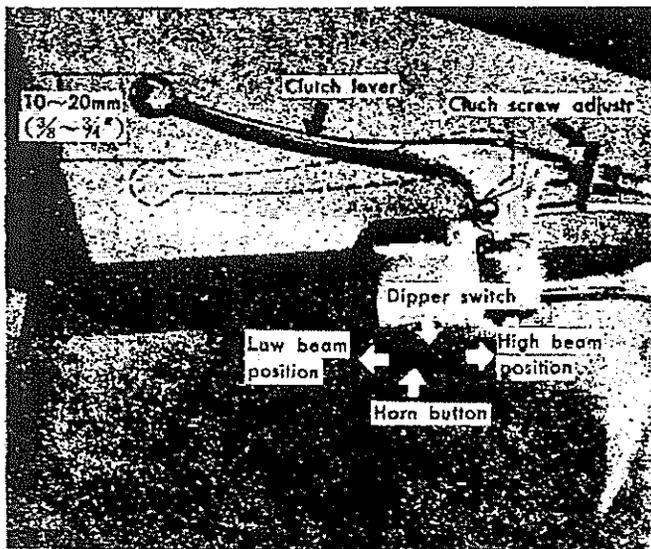

Fig. 15
1. When properly adjusted, there will be approximately 10-20 mm (3/8"-3/4") free play in the clutch control before the clutch disengages (Fig. 15).
2. a) The play in the clutch lever may be adjusted while running with the screw adjuster on the lever. (Fig. 15).